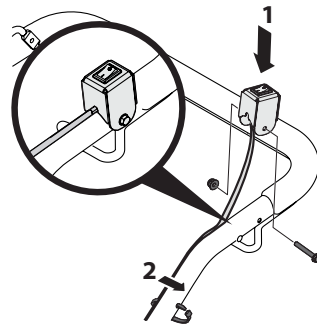

Figure 7
- Mount the emergency stop control ON/OFF switch onto the left side of the handlebar with the #10-32 : 1.50 hex bolt and 10-32 flange lock nut. See 1 in Figure 7.
- Finally, secure the wire near the bottom of the handlebar with a cable tie looped through the hole beside the instruction label on the left handlebar. See 2 in Figure 7.